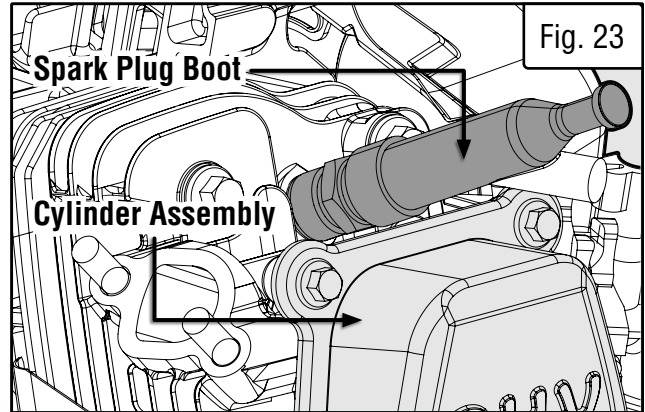

Fig. 23
1. Remove the two Phillips-head screws that secure the spark arrestor to the muffler (Fig. 23).